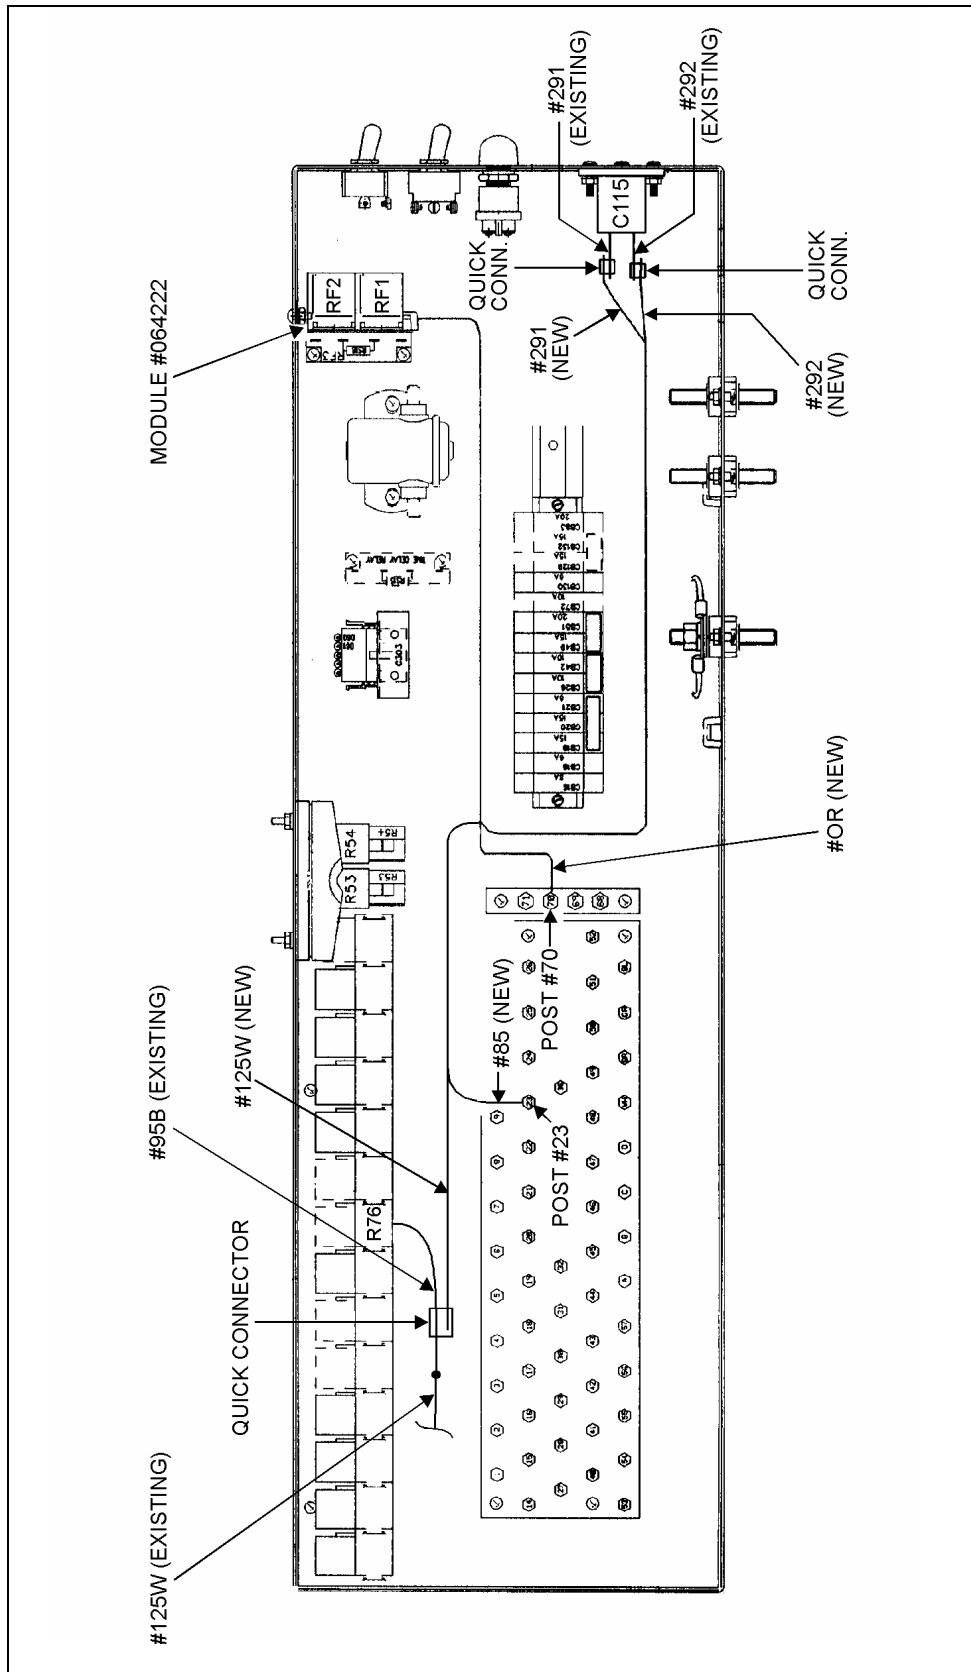

FIGURE 7
5. Identify on wires provided with fan control module, the red wires #291 and #292. Route these wires up to connector C115 following existing harnesses (see fig. 7, page 10). Tap wire #291 with connector C115's wire #291 using quick connector #560710. Repeat for wires #292..